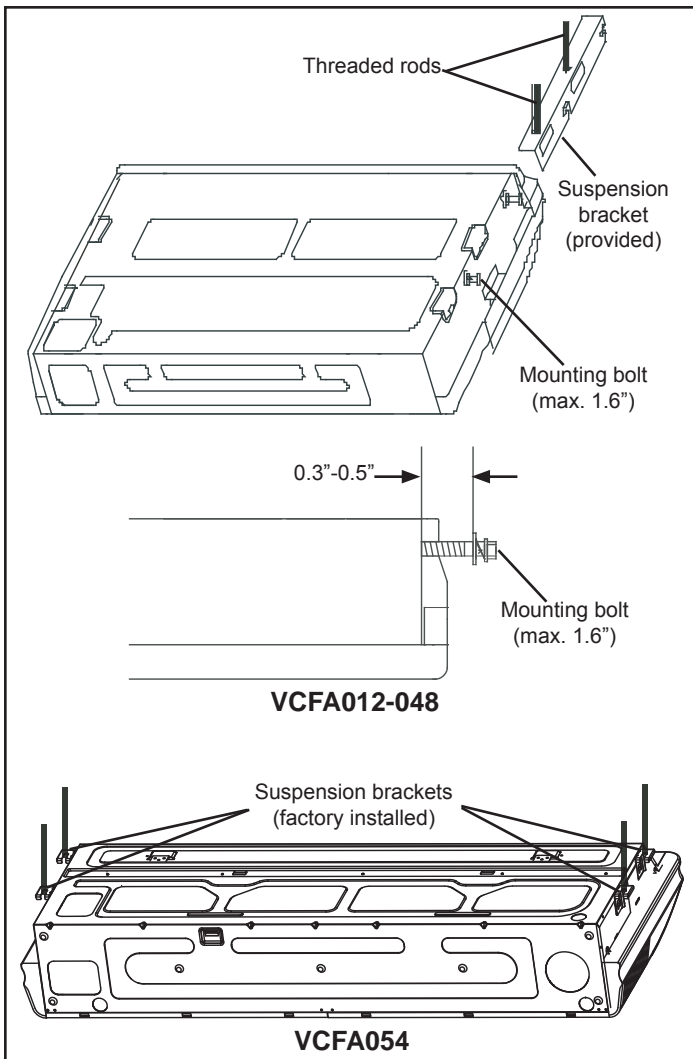

Figure 7. Suspend Unit
- Locate each of the suspension brackets on the previously installed threaded rods: **VCFA012-048 units:** use suspension brackets provided in accessory package. See figure 7. **VCFA054 units:** suspension brackets are factory-installed on to the unit. Install the VCFA054 unit directly onto the threaded rods as instructed in step 8 and then proceed to step 6. Step 9 will not apply to VCFA054 installation. See figure 7.
- Securely tighten the mounting bolts on both sides. See figure 7.
- Once snug, continue another half-turn on each nut which should create a leak-free joint. A torque wrench may be used to tighten flare nuts using table 2 recommendations. See figure 7. **Do not over-tighten a flared joint. Flared connections should always be accessible and must be insulated to prevent condensation.**